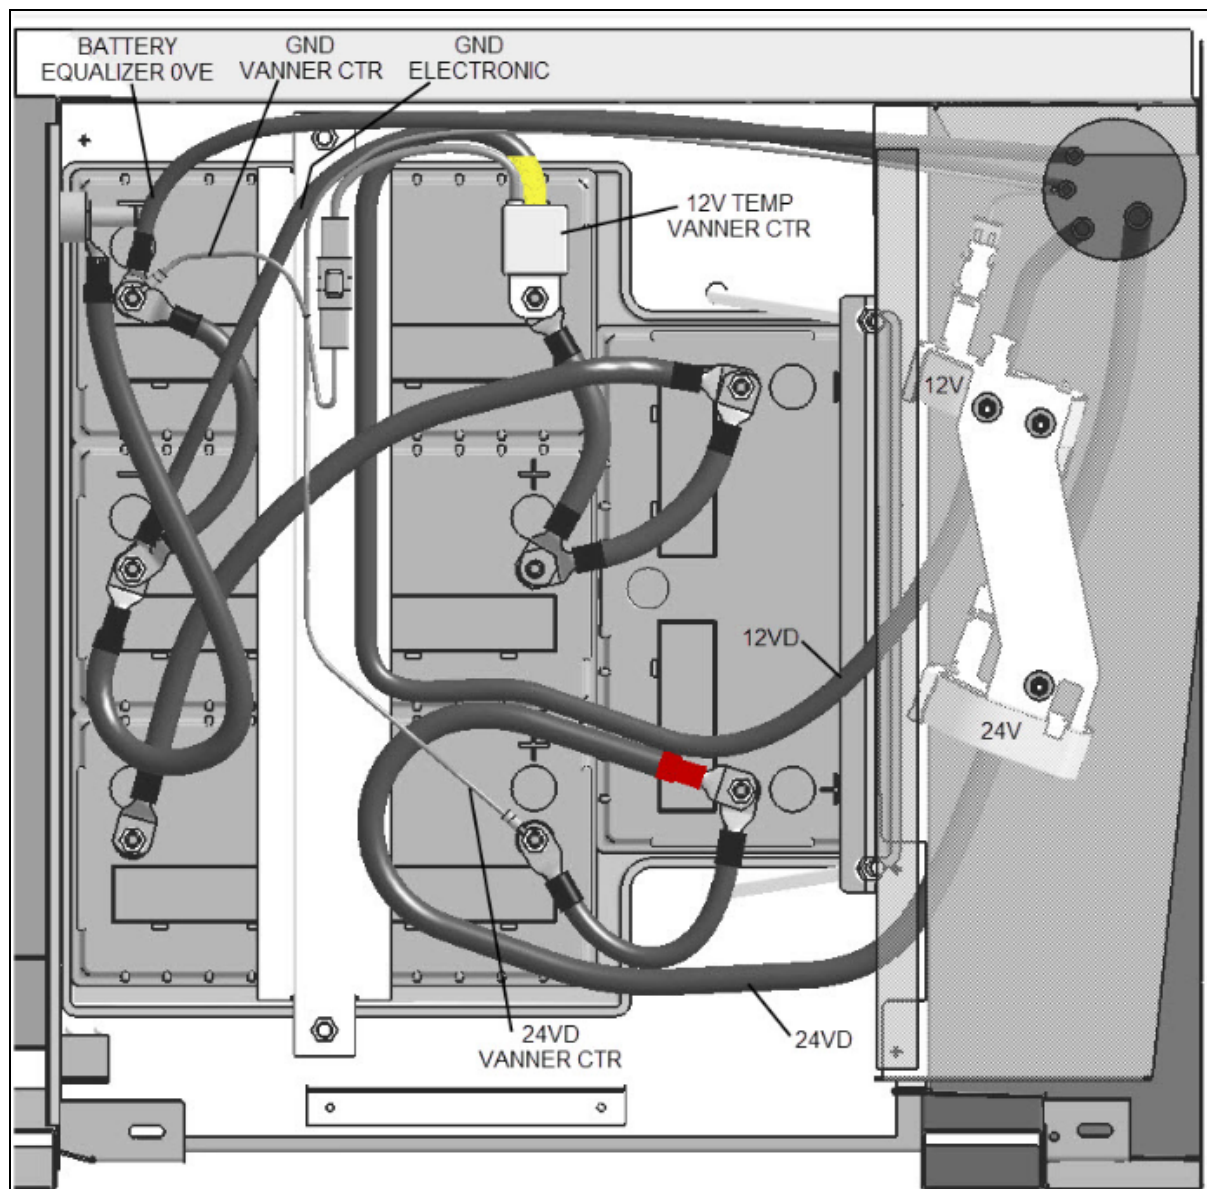

FIGURE 12: H3 SERIES AGM BATTERY CONNECTIONS (PRIME SYSTEM)
If your vehicle is equipped with PRIME energy management system, it is provided with four (4) Absorbed Glass Mat (AGM) 12-volt batteries connected in series-parallel (**FIGURE 12**).